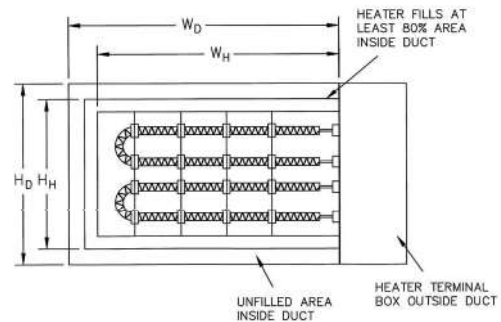

Figure 45.
**The 80% Rule** — INDEECO recommends the heater should occupy at least 80% of the actual inside area of the duct, as shown in Figure 45. Only small amounts of air will bypass the heater around its perimeter and normal turbulence will rapidly mix this unheated air with heated air downstream.